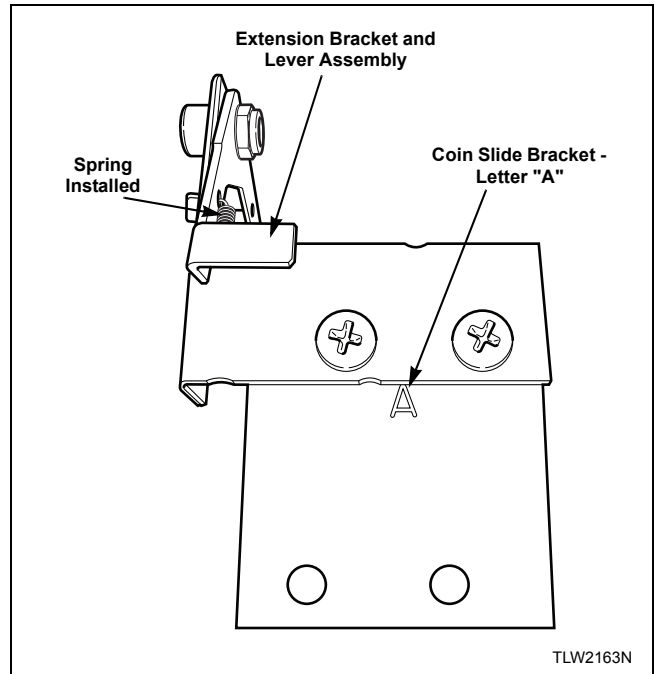

Figure 23
5. Install extension bracket and lever assembly onto coin slide bracket using two screws and locknuts. Refer to *Figure 23*.
IMPORTANT: Install coin slide bracket with side marked "A" facing up and toward extension bracket and lever assembly. Refer to *Figure 23*.